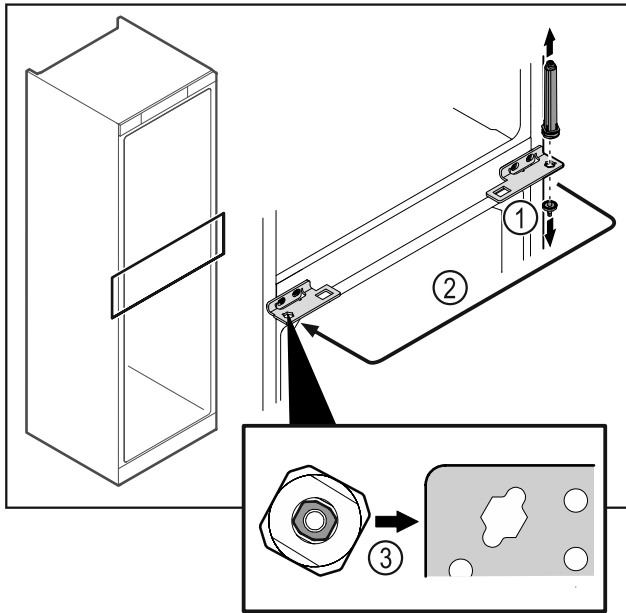

Fig. 48
- ▶ Unscrew the hinge pin Fig. 48 (1).
- ▶ Move the door closing system Fig. 48 (2).
- ▶ Make sure the pin chamfer Fig. 48 (3) faces the round hole when you put it in.